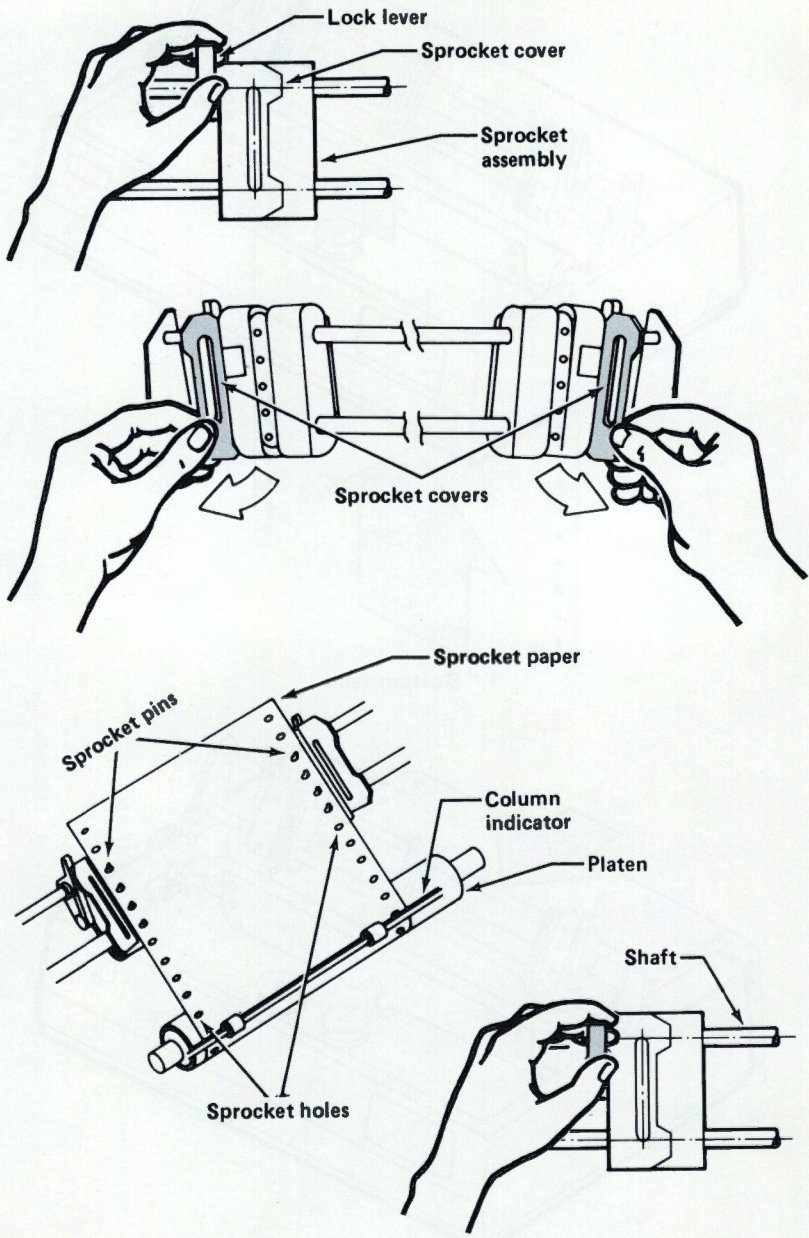

Figure 3-7
9. Pull the paper up and under the column indicator (ML93) or tear-off bar (ML92). Engage the paper's sprocket holes with the sprocket pins of the tractor unit. Figure 3-7 illustrates steps 6 through 9.